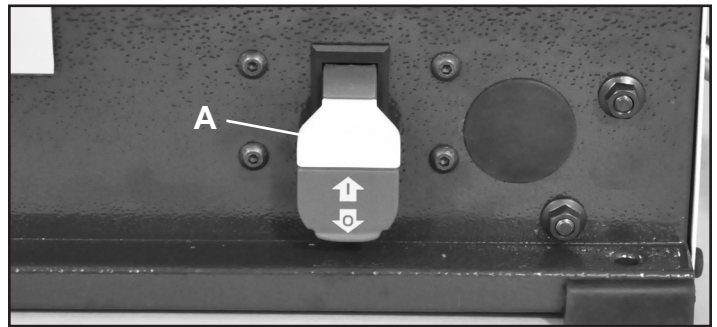

FIG. 12
1. The ON/OFF switch (A) is located on the front of the jointer. To turn the jointer “ON”, the yellow Safety Tab (A) must be inserted in the switch. Then move the switch upwards to start the machine.
2. To turn the jointer “OFF”, move the switch downwards. FIG 12.